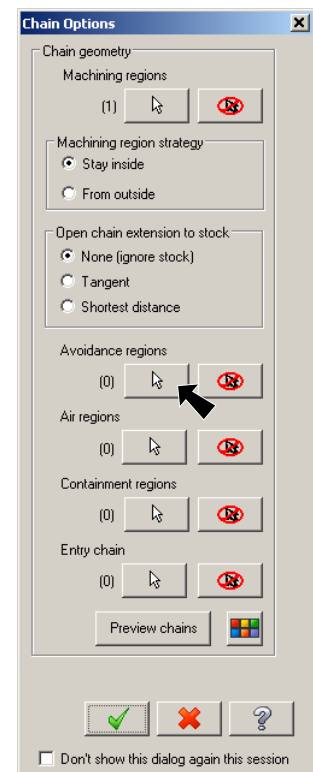

Fig. 35
Step 6. Select **Avoidance regions**  button in Chain Options dialog box, Fig. 35.
Step 8. Click OK  in Chain Options box, Fig. 35.